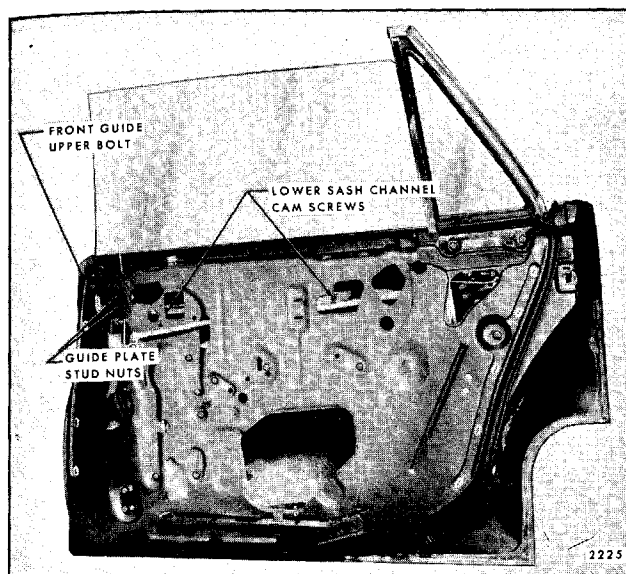

Fig. 7-156—Front Guide and Guide Plate Removal
5. Remove front guide upper attaching bolt (Fig. 7-156).
6. Remove guide plate to lower sash channel attaching stud nuts (Figs. 7-156 and 7-157).